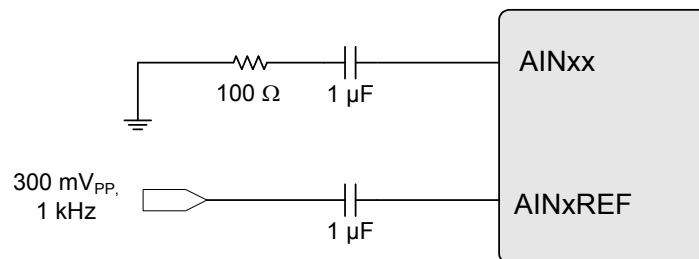

Figure 5. AINxREF Input Voltage Test Configuration
- Providing a signal level higher than 300 mV_{pp} on the AINxREF pin may degrade the PGA linearity and adversely affect analog input performance. See Figure 5.